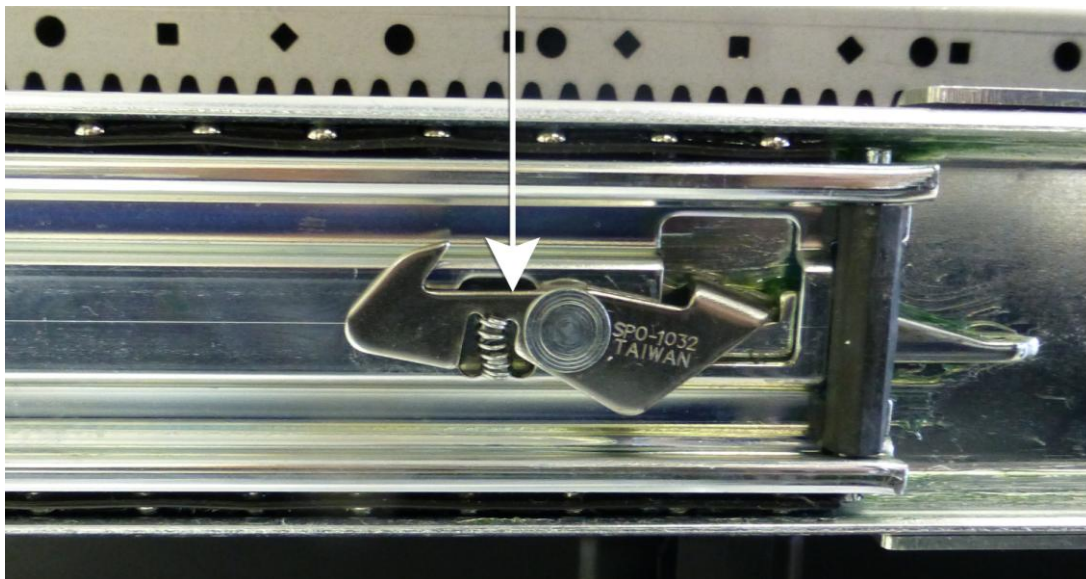

Figure 13. **Middle Slider Locking Release**
3. If slide rail extends out of rack, use locking release mechanism (Figure 13) to push slide into rack.